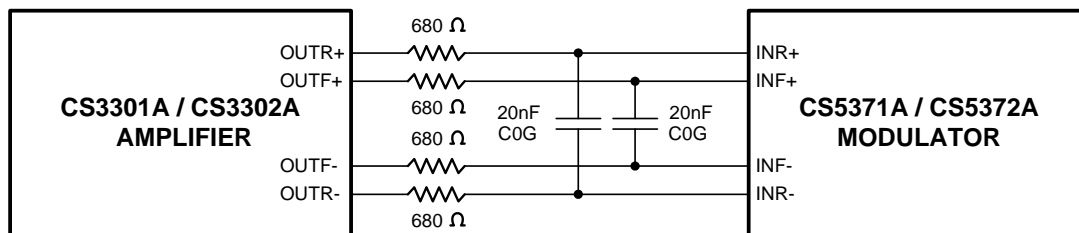

Figure 1. Anti-alias Filter Components
8. Anti-alias capacitors are discrete external components and must be of good quality (C0G, NPO, poly). Poor quality capacitors will degrade total harmonic distortion (THD) performance. See Figure 1 on page 5